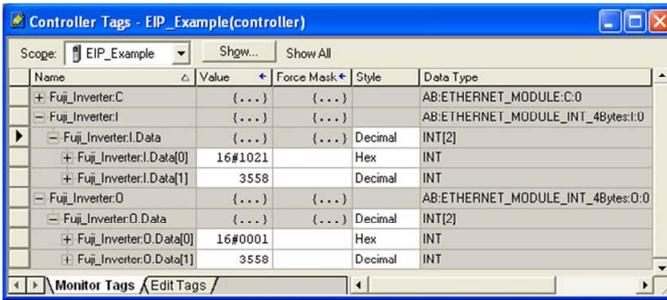

Figure 82: Controller Tags for I/O Access
- 8) By double-clicking “Controller Tags” in the project tree, it is possible to view the newly-added tags. Refer to Figure 82. The Fuji_Inverter:C configuration tag is unused, the Fuji_Inverter:I tag allows viewing of the input data, and the Fuji_Inverter:O tag allows modification of the output data. These tags will be synchronized with the inverter at whatever rate was established for the module’s RPI.
We can directly interact with these tags in order to control and monitor the inverter. In Figure 82, for example, we can see that the first 16-bit word of output data (Fuji_Inverter.O.Data[0]) has been set to a hexadecimal value of 0x0001. Referring back to Figure 43, we can see that the first element of the consumed data configuration references function code S06, which is the inverter's operation command register. A value of 0x0001, therefore, means that the FWD (run forward) bit has been turned ON.